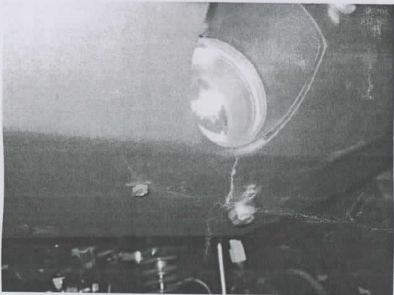

Figure 4
3. Install both OE Driving Lights into the **Bumper** using the supplied $\frac{1}{4}$ "x3/4" **Hex Bolts**, $\frac{1}{4}$ " **Washers**, and $\frac{1}{4}$ " **Hex Nuts**. Refer to **Figures 4 and 5**.